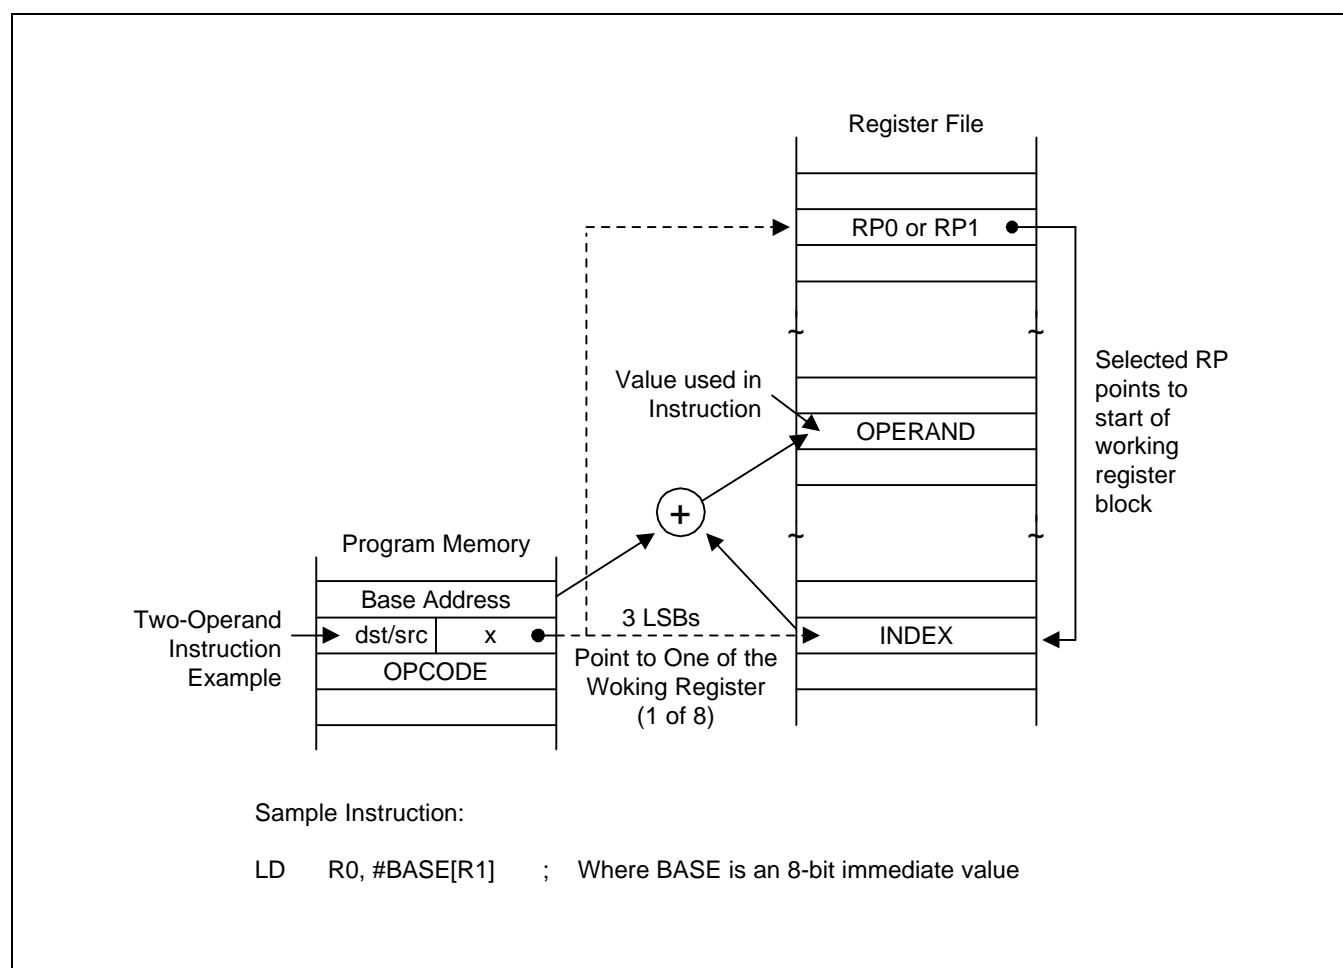

Figure 3-7. Indexed Addressing to Register File
Indexed (X) addressing mode adds an offset value to a base address during instruction execution in order to calculate the effective operand address (see Figure 3-7). You can use Indexed addressing mode to access locations in the internal register file or in external memory. Please note, however, that you cannot access locations C0H–FFH in set 1 using Indexed addressing mode.